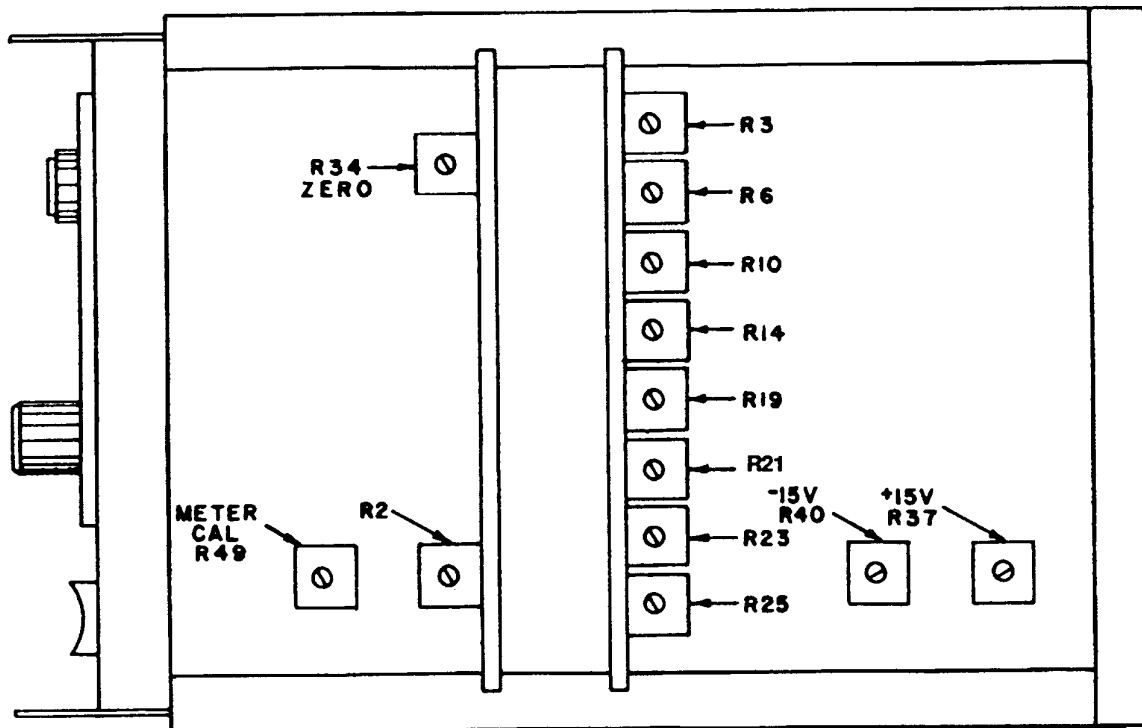

Figure 1. AN/URM-145C.
- (4) Connect frequency counter low lead to TI chassis.
- (5) Connect frequency counter high lead to TI A5E1.
- (6) Adjust R2 (fig. 1) for a frequency counter indication between 92 and 96 Hz (R).
- (7) Disconnect TI from frequency counter and calibrator.
- (8) Set TI **RANGE** switch to **.001 VOLTS**.
- (9) Disconnect TI RF probe from calibrator.
- (10) Zero TI meter with **ZERO** control.
- (11) Set TI **RANGE** switch to **.3 VOLTS** and adjust R34 **ZERO** (fig. 1) for TI meter indication of 0.
- (12) Set **RANGE** switch to **3.0 VOLTS**.
(15) Adjust **METER CAL R49** (fig. 1) for a TI indication between 2.7 and 3.3 V ac (ideal 3.0 V ac) (R).
(16) Set **RANGE** switch to **.001 VOLTS**.
(17) Disconnect RF probe from calibrator.
(18) Zero TI meter with **ZERO** control.
(19) Connect probe to calibrator **WIDEBAND OUTPUT**.
(20) Adjust calibrator for 1 mV ac output and then adjust **R3** (fig. 1) for a TI indication between .00085 and .001 15 V ac (ideal .001 V ac) (R).
(21) Set **RANGE** switch to **.003 VOLTS**.
(22) Disconnect RF probe from calibrator.
(23) Zero TI meter with **ZERO** control.
(24) Connect RF probe to calibrator **WIDEBAND OUTPUT**.
(25) Adjust calibrator for 3 mV ac output and then adjust **R6** (fig. 1) for a TI indication between .0027 and .0033 V ac (ideal .003 V ac) (R).
(26) Set **RANGE** switch to **.1-VOLTS**. Adjust calibrator for .10 V ac output and then adjust R19 (fig. 1) for a TI indication between .09 and 0.11 V ac (ideal .1 V ac) (R).
(27) Set **RANGE** switch to **.3 VOLTS**. Adjust calibrator for .3 V ac output and then adjust R21 (fig. 1) for a TI indication between .27 and .33 V ac (ideal .3 V ac) (R).
(28) Set **RANGE** switch to **.01 VOLTS**. Adjust calibrator for .01 V ac output and then adjust R10 (fig. 1) for a TI indication between .009 and .011 V ac (ideal .01 V ac) (R).
(29) Set **RANGE** switch to **.03 VOLTS**. Adjust calibrator for .03 V ac output and then adjust R14 (fig. 1) for a TI indication between .027 and .033 V ac (ideal .030 V ac) (R).
(30) Set **RANGE** switch to **1 VOLTS**. Adjust calibrator for 1 V ac output and then adjust R23 (fig. 1) for a TI indication between .9 and 1.1 V ac (ideal 1.0 V ac) (R).
(31) Set **RANGE** switch to **3 VOLTS**. Adjust calibrator for 3.0 V ac output and then adjust R25 (fig. 1) for a TI indication between 2.7 and 3.3 V ac (ideal 3.00 V ac) (R).